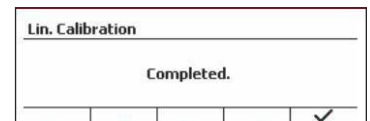

Figure 19
- The message "Completed" will display on screen. (See Figure 19)